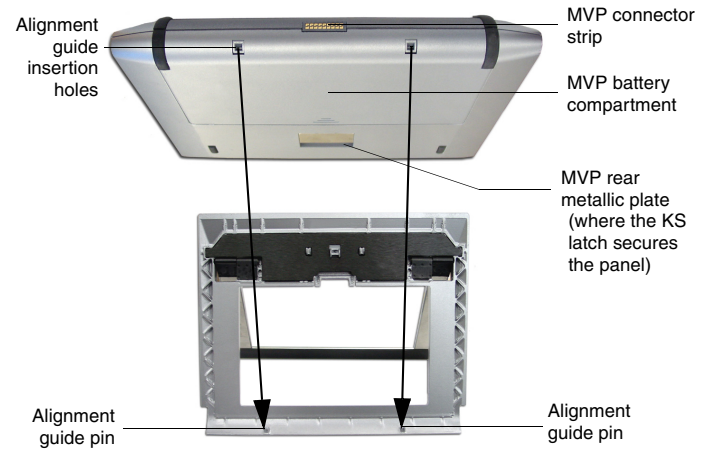

FIG. 3 Aligning the MVP panel to the kickstand alignment guide pins
3. Locate the MVP-KS alignment guide pins (FIG. 3). These pins are inserted into the respective MVP alignment guide insertion holes (located along the underside of the MVP - at either sides of the connector strip).
4. Carefully grasp both sides of the MVP-KS Kickstand and insert the KS alignment guide pins into their respective insertion holes on the bottom of the MVP (FIG. 3).